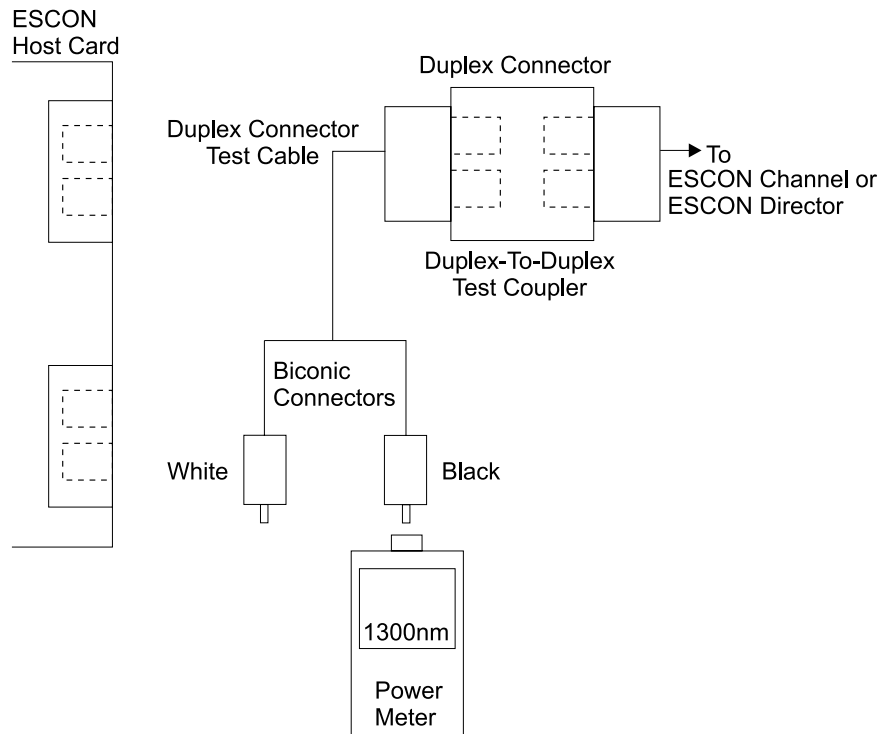

Figure 149. Measuring Optical Receive Power (s008186n)
3. Connect the duplex connector of the customer's fiber optic cable (the duplex connector that was removed from the 2105 Model Exx/Fxx ESCON card) into one side of the duplex-to-duplex test coupler, P/N 18F6952 (see Figure 149).